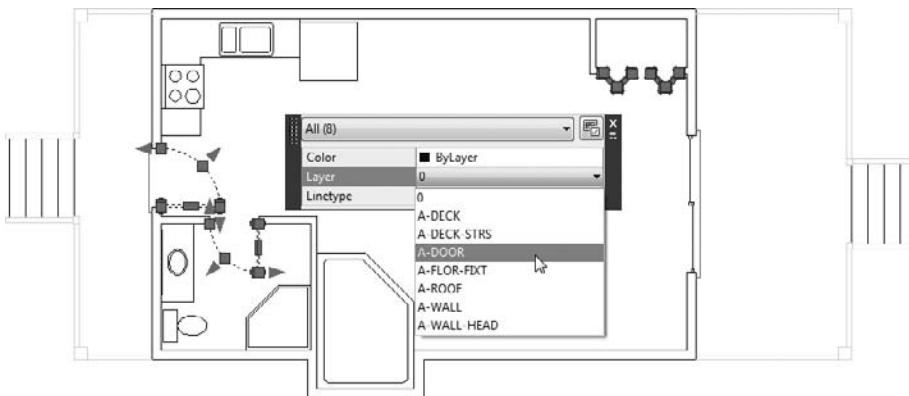

FIGURE 6.24 Using the Quick Properties panel’s Layer drop-down list to change the layer of the door objects
5. Select the four rectangles that make up the closet doors; then open the Layer drop-down list from either the Layers panel or the Quick Properties panel and select the A-DOOR layer, as shown in Figure 6.24.